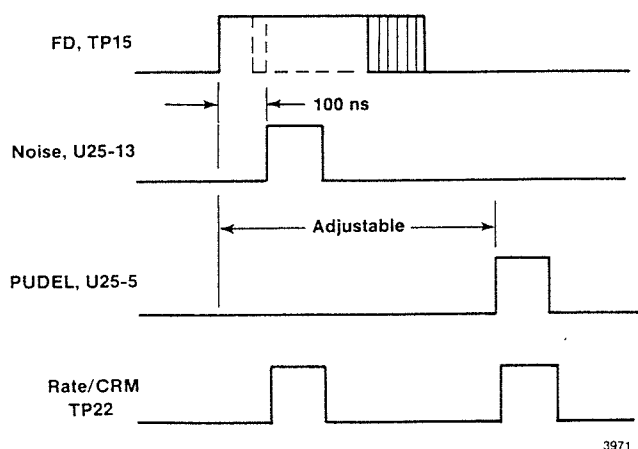

Fig. 5.1. Generation of CRM from Fast Discriminator.
The CRM generator is initiated by the fast discriminator (FD). Figure 5.1. shows the timing relationship between FD and NOISE and PUDEL pulses. In a germanium detector system, FD will have a family of pulse widths determined by the charge collection times of particular events in the germanium detector. Two circuits generate the NOISE and PUDEL pulses shown in Fig. 5.1. The NOISE circuit reduces sensitivity to noise when it triggers the fast discriminator. The NOISE circuit output is generated only if the width of FD is  $> 100$  ns.